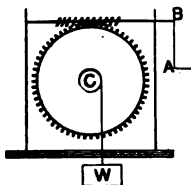

Fig. 107.
5. In the "endless screw" with connecting wheel and axle (Fig. 107), what is Wd if Fd is the circumference described by the crank AB ?